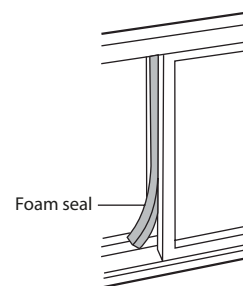

FIG.15
- 5 Cut the foam seal to an appropriate length and seal the open gap between the top window sash and outer window sash. Show as in Fig. 15.